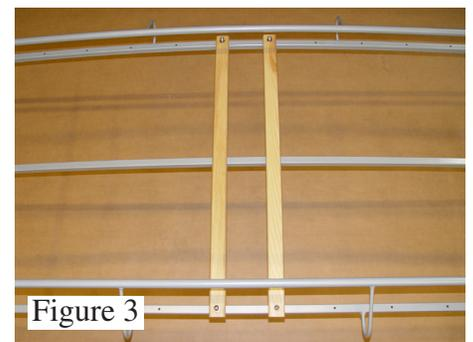

Figure 3
4. Turn the assembly over and begin installing the wood slats using the M5 machine screws and flat washers with the 3mm hex wrench supplied with the kit. Begin with the two center slats and then work your way towards both ends. (See Figure 3) **again do not tighten at this time**.